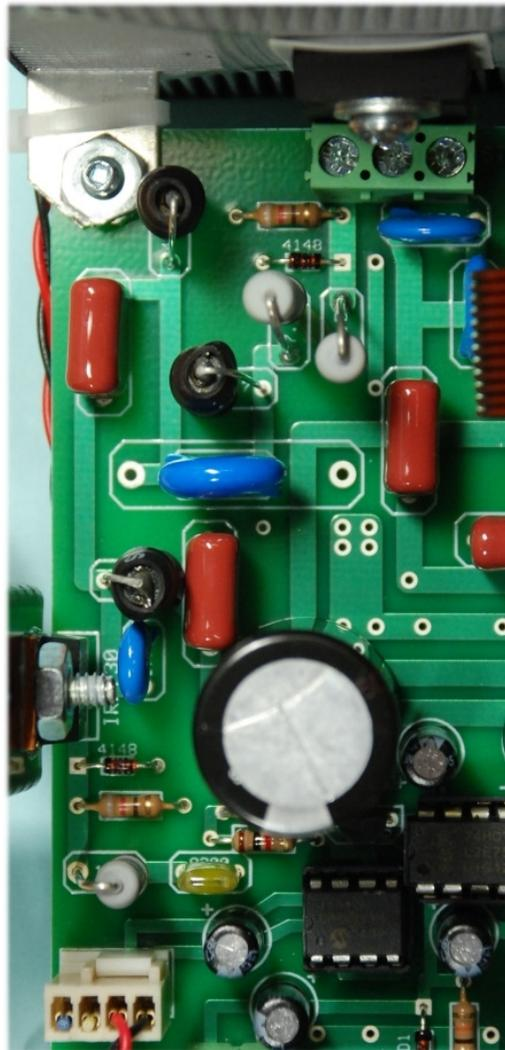

Figure 3.
5) Please refer to **Figure 3**, (next page,) for the location of the gate resistors.